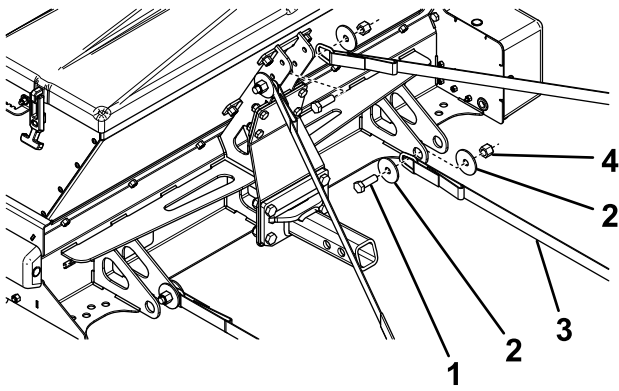

Figure 8
3. Attach the D-ring end of the ratchet straps to the spreader frame using 2 bolts (1/2 x 1-1/2 inch), washers (1/2 inch), and locknuts (1/2 inch) as shown in Figure 8.